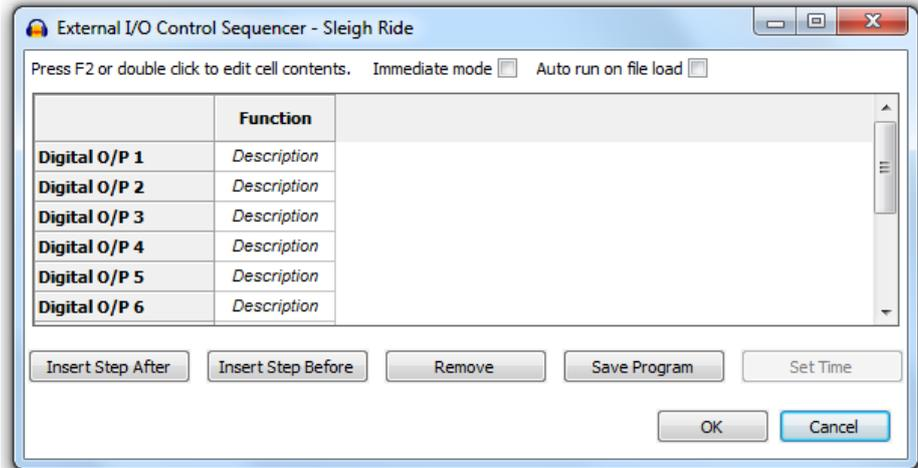
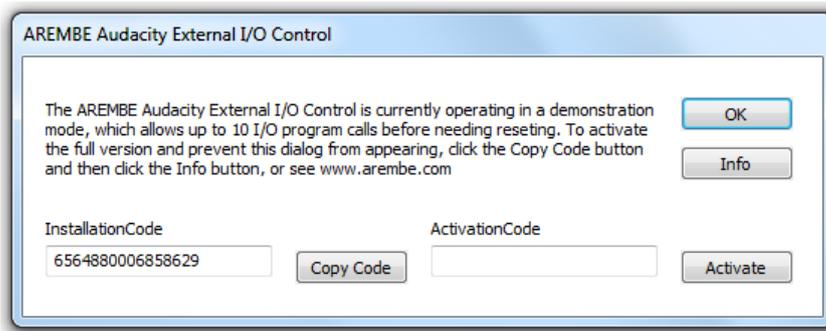

Figure 2-6, External I/O Sequencer Window with empty project
Figure 2-12, Activation Dialog
- 4) Use the **Tracks, Add New, Label Track** menu to add a Label Track to the project, as shown in figure 2-6.
in a new, floating window, as shown in Figure 2-6. Note that if, as will normally be the case, the software is not activated, another dialog (shown later in figure 2-12) will first appear; click **OK** to dismiss this.
- 7) Click any cell in the **Function** column and then click the **Insert Step After** button. A new column 1 will be added to the right. Now click any cell in this column 1 and click the **Insert Step After** button again. The result will be two columns headed with the numbers 1 and 2, as shown in figure 2-6.
If the demonstration mode is active, the dialog shown in figure 2-12 will be displayed when the External I/O Sequencer menu is opened.
- 1) When the dialog shown in figure 2.12 is displayed, write down (or click the **Copy Code** button to copy the code to the Windows clipboard, and paste into another document) the **Installation Code**
Open an Audacity project and then open the External I/O Sequencer menu. The dialog shown in figure 2.12 will be displayed again.